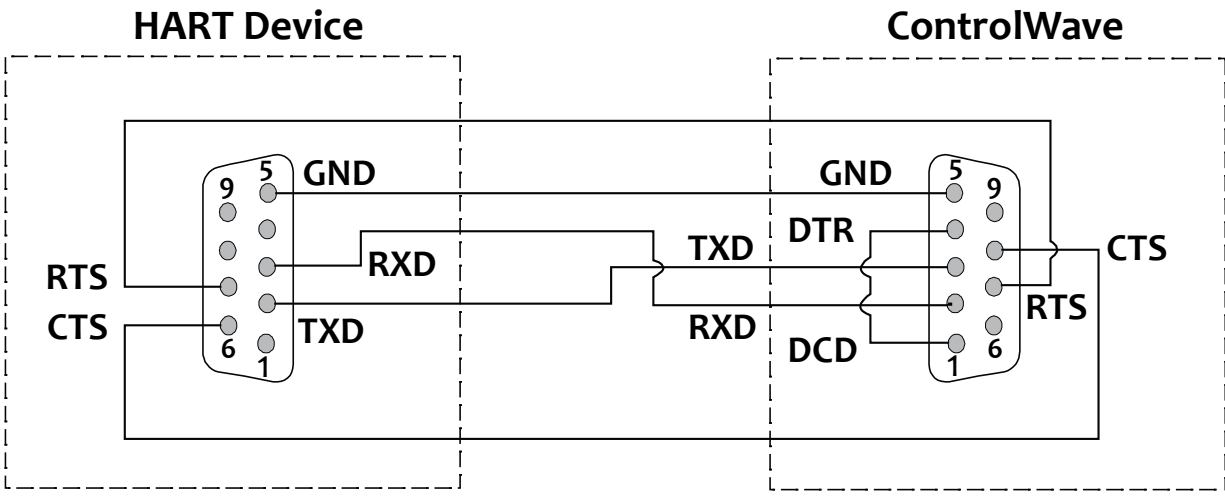

Figure 8. ControlWave RS-232 Cable
3. In the Flash Configuration utility, configure the ControlWave serial port in question for the HART Protocol port type and connect the port to J1 of the HDI board (see *Table 1-1* for HDI - J1 designations). See *Figure 8* for ControlWave RS-232 cable designations. For instructions on how to access the Flash Configuration utility, refer to *Chapter 5* of the *OpenBSI Utilities (D5081)* manual.